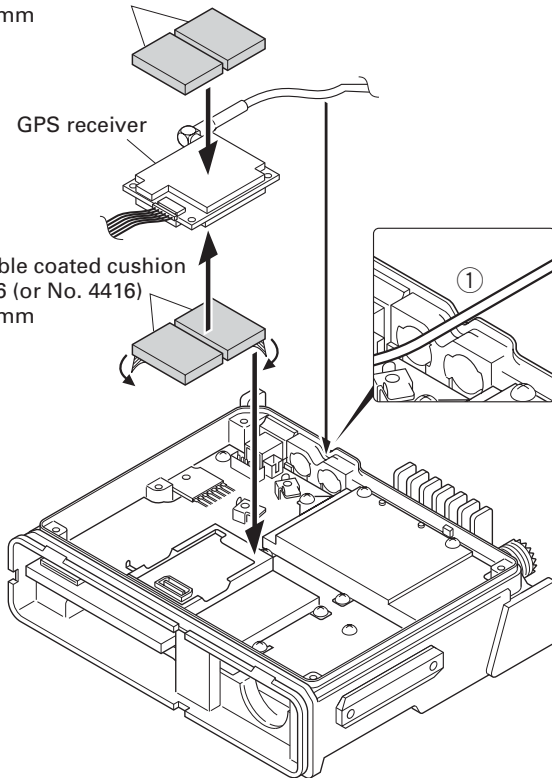

Fig. 7-2
4. Attach the GPS receiver to the shield case with two cushions as shown in Figure 7-2.
6. Place the GPS antenna cable in the hollow at the rear of the chassis. (Fig. 7-2 ①)